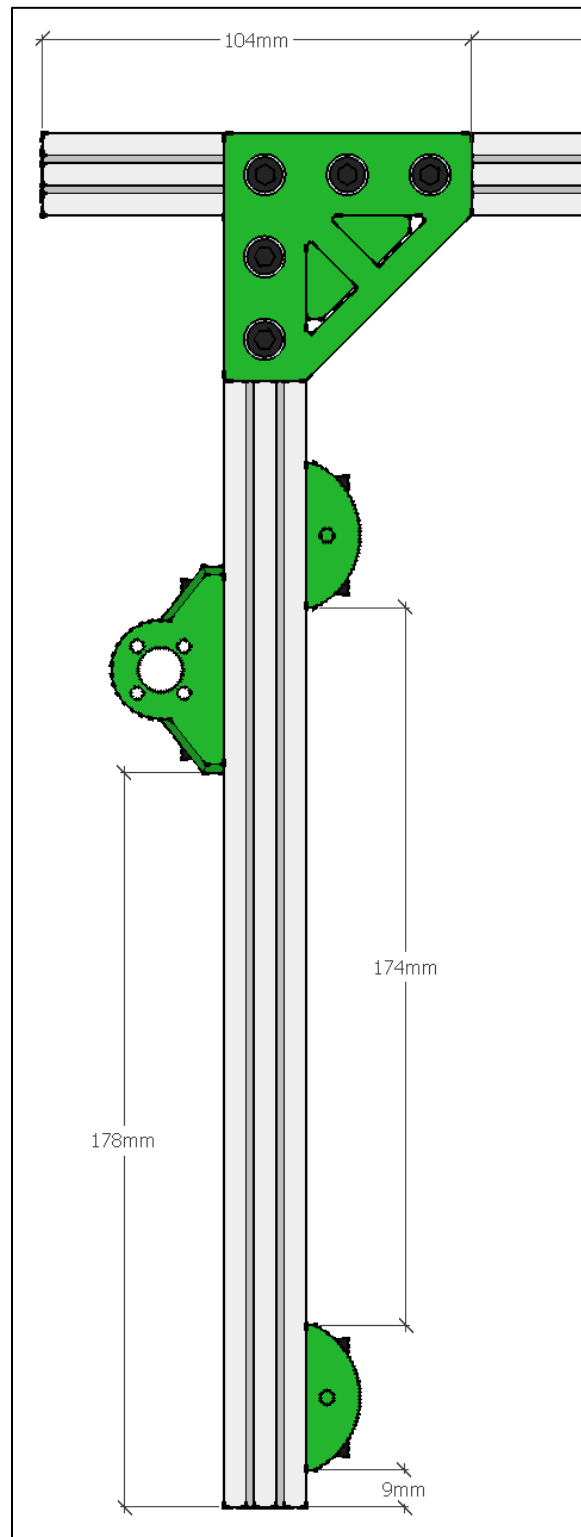

Figure 20: Z Platform Dimensions
- Adjust Z platform parts according to Figure 20. Both sides are symmetrical.